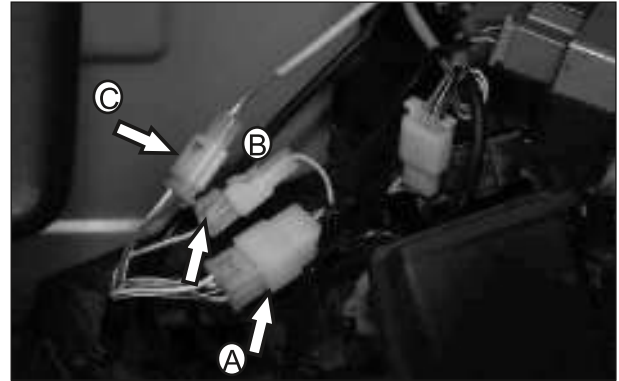

Fig. 3.8
- Disconnect the magneto output coupler (A), Pulsar coil coupler (B) and Brake Lamp Coupler (C). (fig. 3.8)
**Note:** Incase of (GS+, LS+ and ZS+) DC magneto need to disconnect magneto output coupler (A) & pulsar coil coupler (B) only